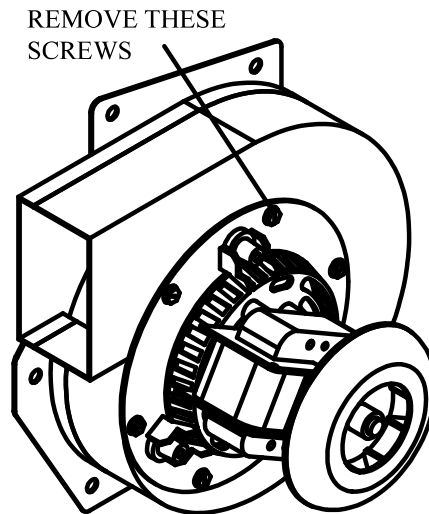

Figure 21. Exhaust fan assembly.
3. Clean the exhaust fan housing. Ash accumulation on the fan blades will reduce the life of your exhaust fan. Frequent cleaning will help extend the life of this component. Open the left side panel to access the exhaust fan. Using a Common (flat head) screwdriver, remove the 6 sheet metal screws holding the fan motor to the housing (see Figure 21). Using a brush, clean all of the ash from the exhaust fan blades and housing.